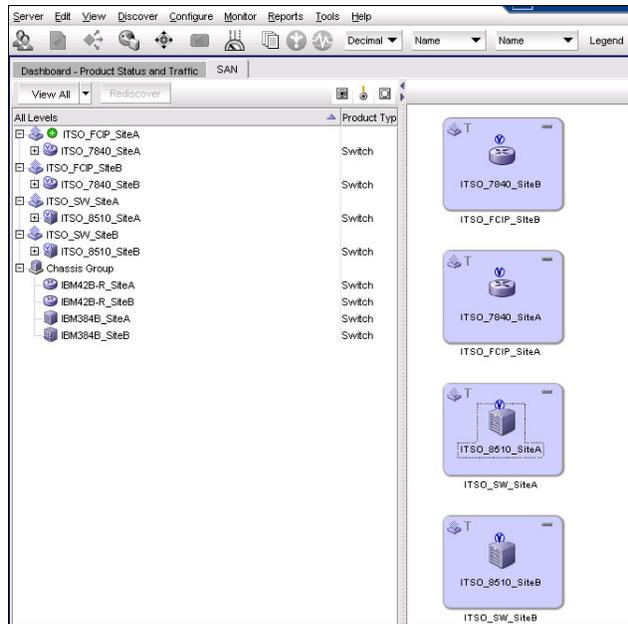

Figure 6-26 Fabric Overview
2. Review the SAN tab of the overview page to make sure the four SAN fabric (2 SAN42B-R and Brocade 8510) switches are already added into fabric discovery (Figure 6-26). If not, follow the steps to add fabric discovery which are described from the steps 14 on page 165 to 18 on page 167.